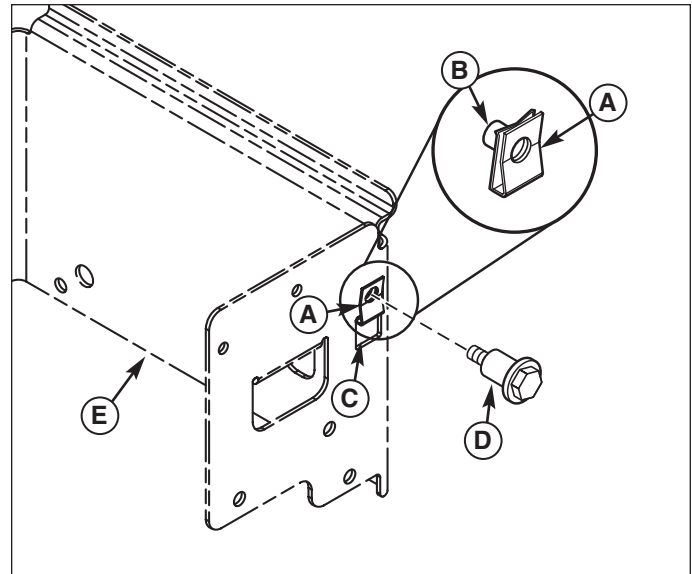

Figure 1. Install Spacer (left side shown)
1. Slide the 5/16-18 speed nut (A, Figure 1) onto rear frame support (E) through square hole (C) so that the threaded side (B) is on the inside of tractor.
2. Secure the 5/16-18 shoulder bolt (D) as shown.